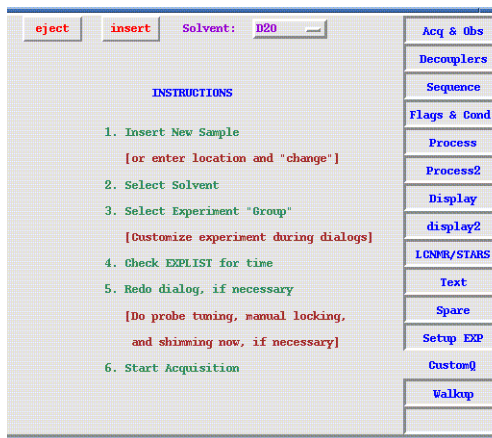

Figure 40. CustomQ - On Screen Instructions
4. On screen instructions (Figure 40) are provided to assist the user in setting up the automated experiment list.